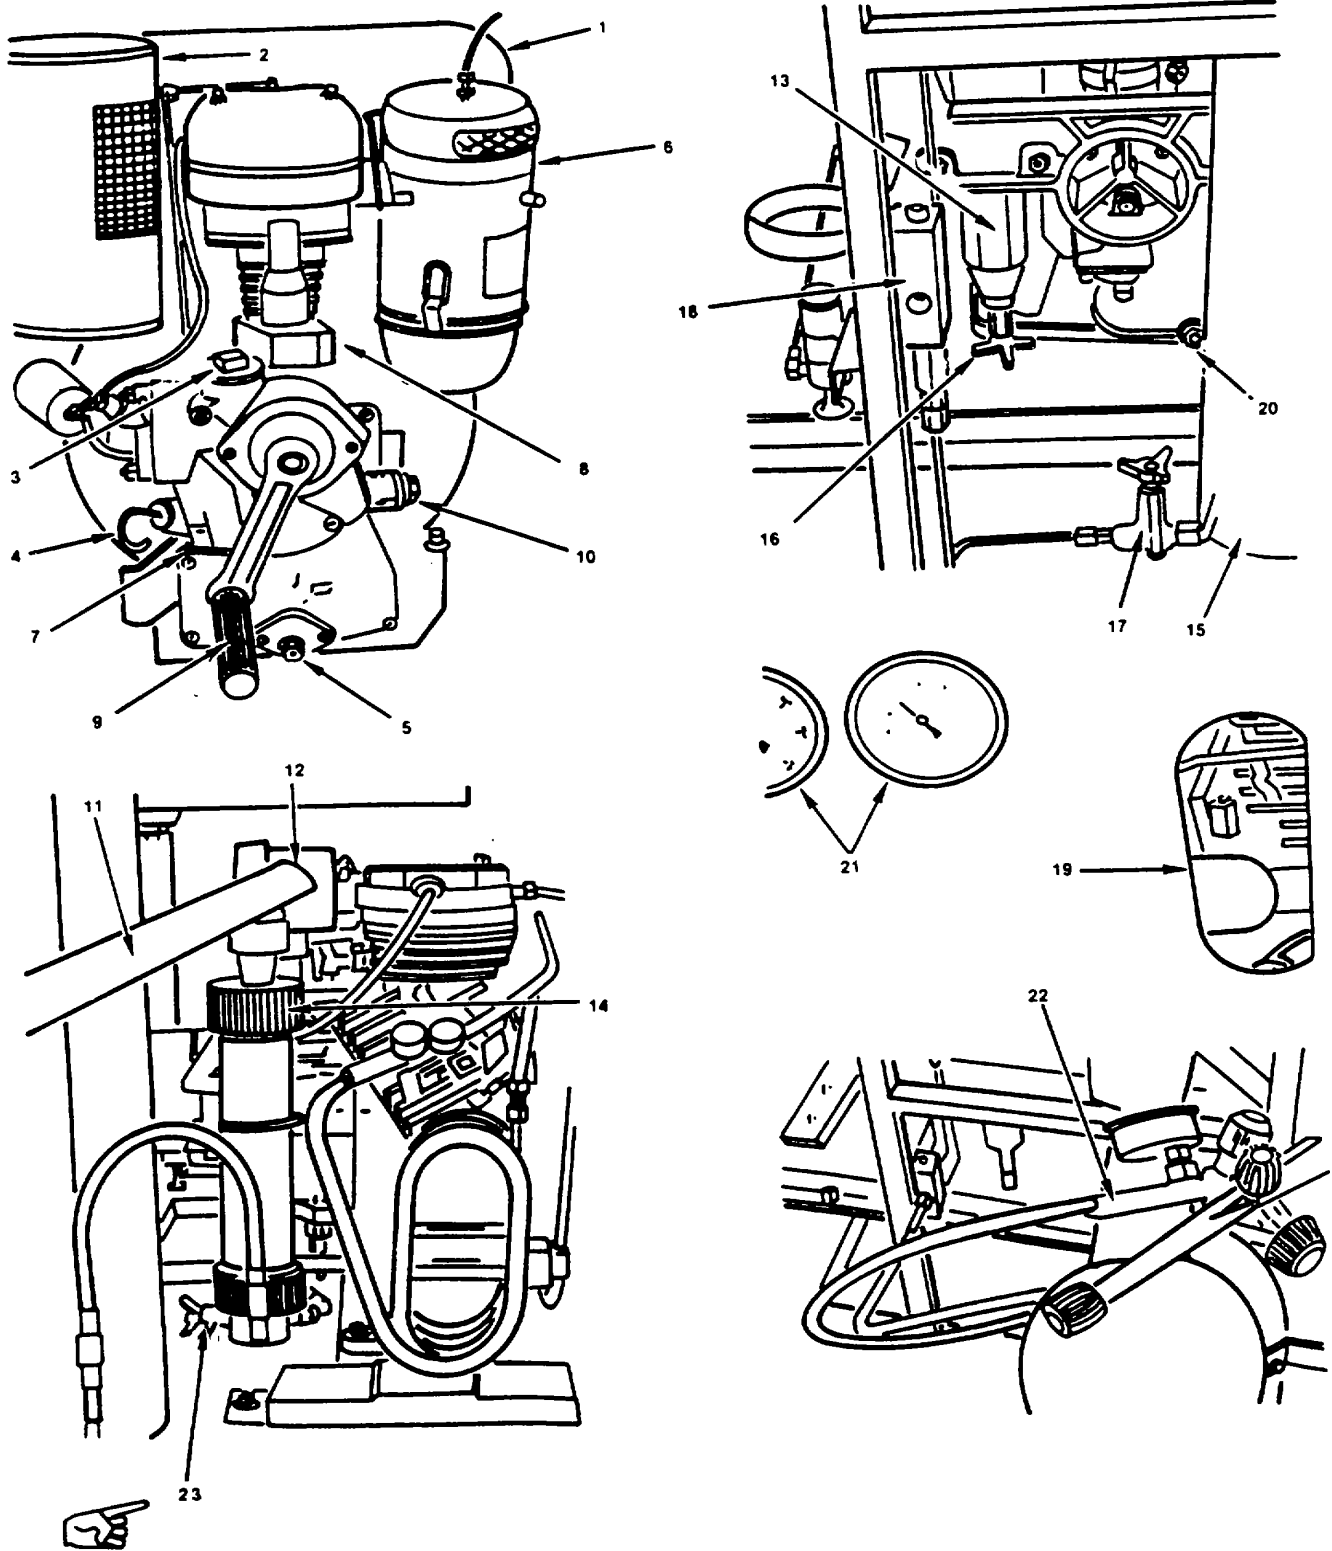

Figure 1-3. Air Compressor Unit.
1-7. AIR COMPRESSOR UNIT. The significant features, items and controls which affect the operation and maintenance of the air compressor unit are shown in Figure 1-3 (unless otherwise noted) and are described as follows. The technical principles of operation of the compressor are listed in Section III.
Legend for Figure 1-3
- f.** Check the oil level in the compressor crankcase with the combination oil fill plug and dipstick (19, Fig. 1-3).
g. Check the oil level in the engine crankcase with the engine oil dipstick (4, Fig. 1-3). Wipe off the dipstick with a clean lint free cloth and reinsert the dipstick to determine the oil level. The crankcase oil level should be up to the upper dipstick mark. If the oil level is low, add oil to bring the level up to the upper dipstick mark. Oil must conform to the requirements shown in Table 2-2. When checking engine oil level push dipstick in until cap bottoms on tube.
h. Fill the engine Fuel Tank (1, Fig. 1-3) with clean, fresh diesel fuel, *type #2*, or 2D. Do not mix oil with diesel fuel. Do not use gasoline, fuel additives or other starting fluids in fuel tank. Do not overfill or spill. If fuel is spilled, wipe up immediately.